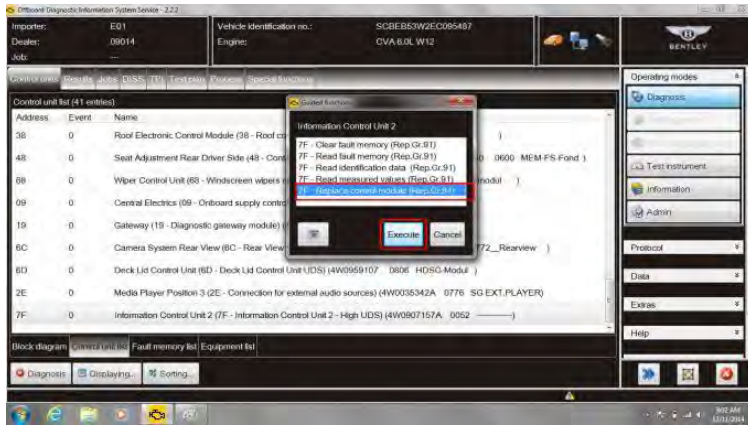

Figure 4
9. Within Control units, Information Control Unit 2, Select *Replace control module* and then *Execute* (see Figure 4)